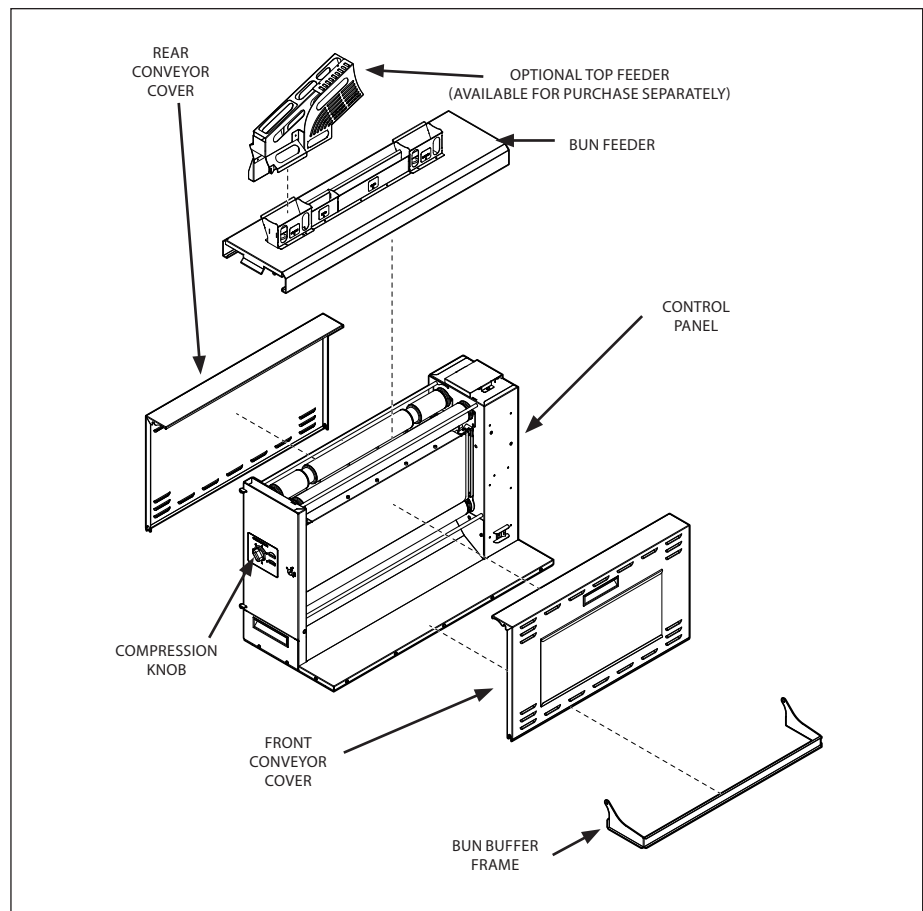

Figure 1. GST-5V Components (Belts not Shown)
2. Attach the Bun Feeder and Bun Buffer Frame accessories (Figure 1).
3. Attach the optional Top Feeder if present (Figure 1).
2. See Figure 1. Press and hold the MENU button for five seconds.